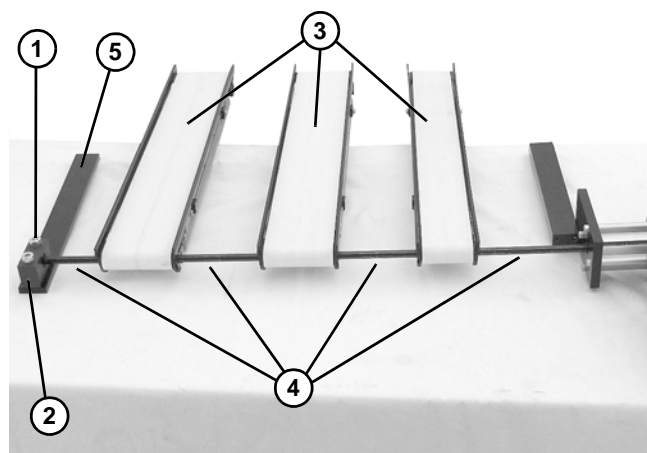

Figure 12
- Remove screws (Figure 12, item 1) and remove bearing block (Figure 12, item 2).
- Slide hex shaft through conveyors (Figure 12, item 3) and shaft cover pieces (Figure 12, item 4) into flex coupling.
- Attach bearing block (Figure 12, item 2) to bearing support bar (Figure 12, item 5) with screws (Figure 12, item 1). Tighten screws to 35 ft-lb (45.5 Nm).